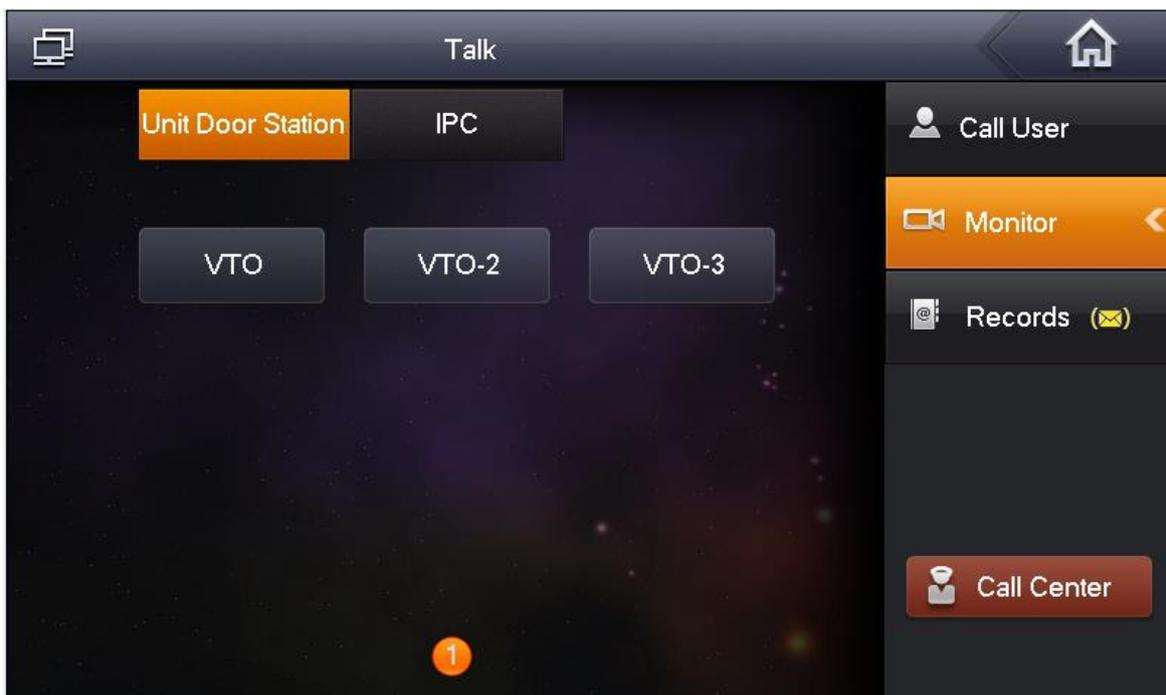

Figure 3-14
Step 1. Select Video Talk>Monitor>Unit Door Station. See Figure 3-14.